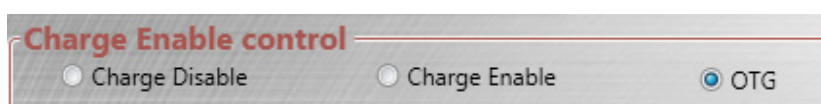

Figure 20: Selecting On-the-Go (OTG) Mode
- Pull JP3 high, and select OTG in the menu (see Figure 20).